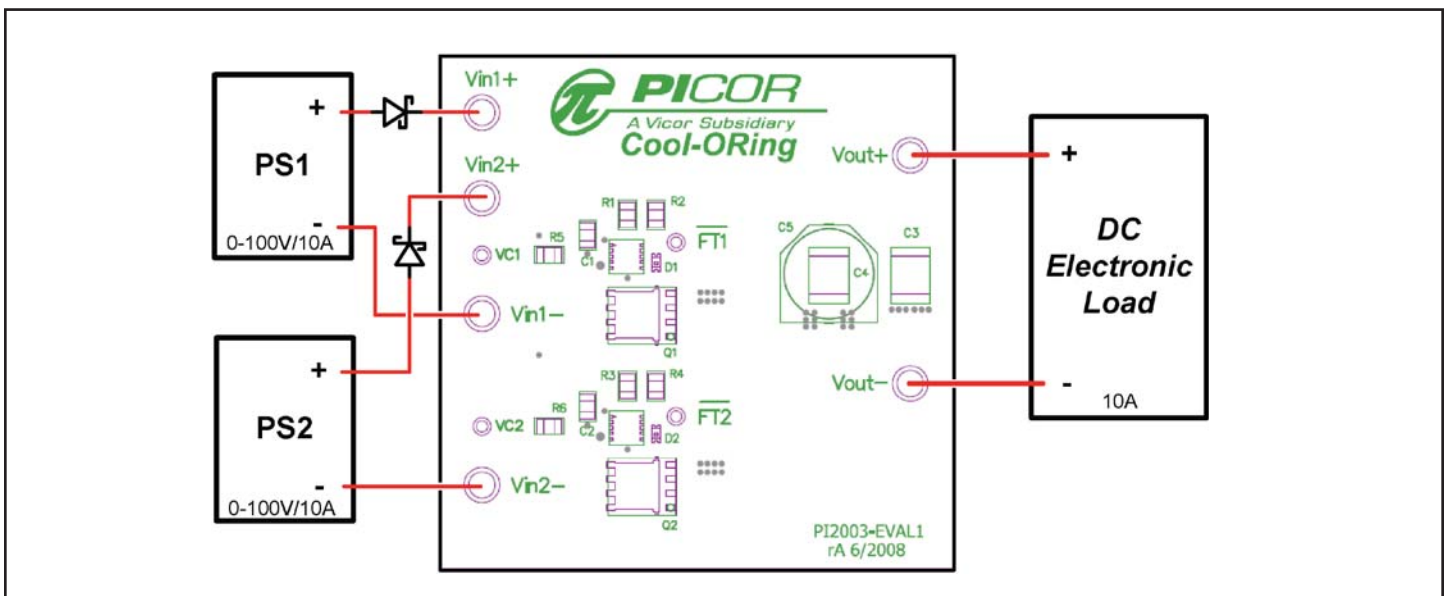

Figure 4 – Layout configuration for a typical redundant power application, using non-isolated power supplies.
- 1.1.1 If the DC power supply outputs are not isolated, two 10 A 100 V Schottky diodes are required, as shown in Figure 4.
3.2 If non-isolated power supplies are used, Figure 4.